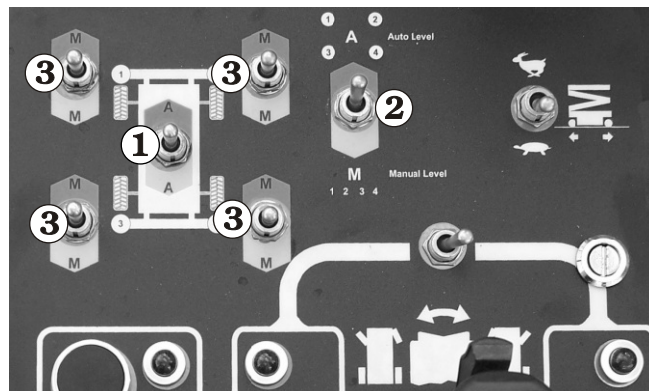

Figure 8.27
1. Set switch **2** to automatic mode (see Figure 8.27).
To raise or lower the stabilisers 'automatically' switch **1** (see Figure 8.27) is used.